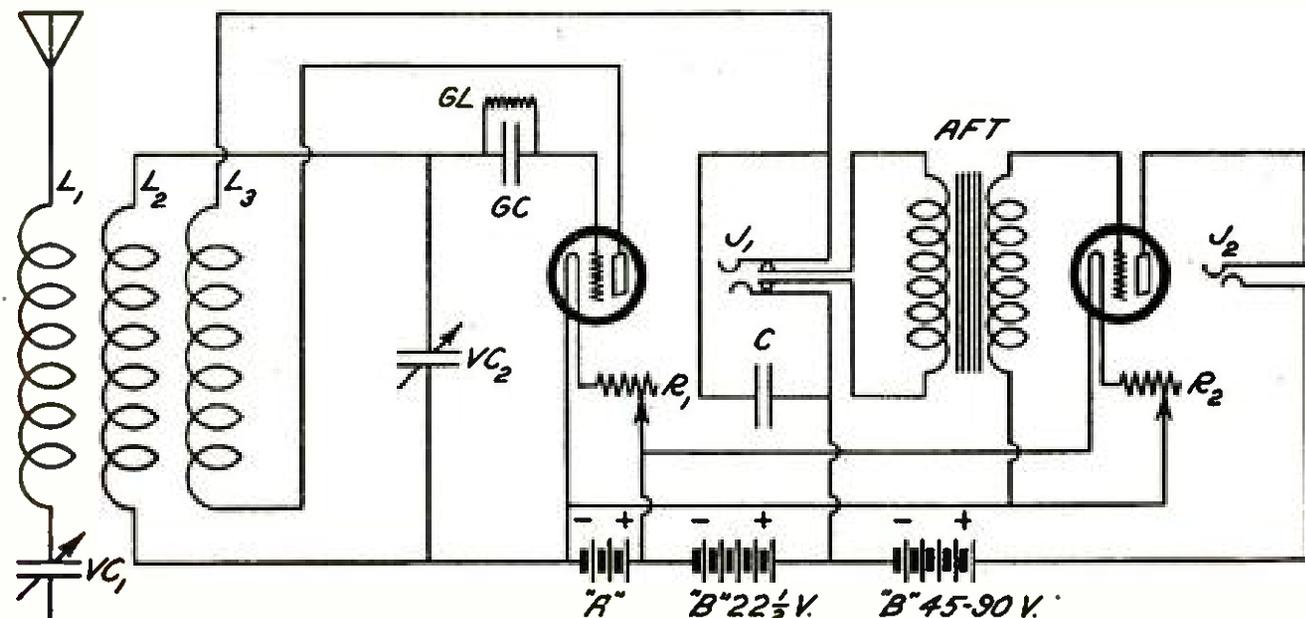

FIGURE 1
**ANSWER:** On page 467, Figure 1, of the June issue of POPULAR RADIO you will find a circuit for using the tube and crystal in a simple reflex radio frequency set. It should give you loud signals.
**QUESTION:** Will you show me how to add one stage of audio frequency amplification to my three-coil receiving set? I obtained the original hook-up from Figure 1 on page 59 in the May, 1922, issue of POPULAR RADIO.
**ANSWER:** In Figure 1 you will find the complete circuit. The extra parts you will need are: